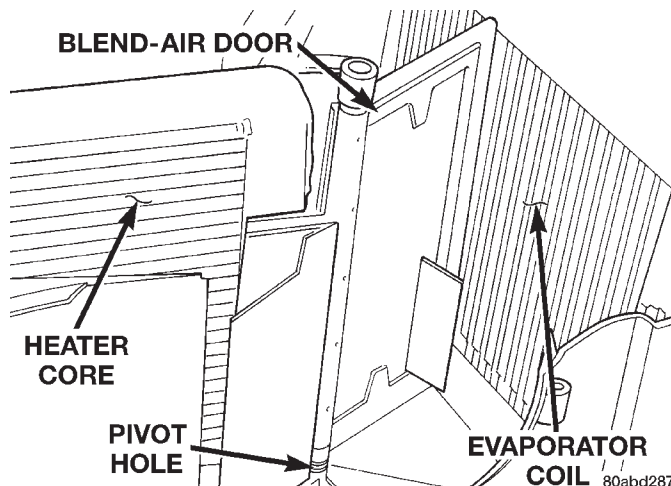

Fig. 50 Blend-Air Door
(2) Lift the blend-air door pivot shaft out of the pivot hole in the bottom of the lower half of the heater-A/C housing (Fig. 50).
(3) Reverse the removal procedures to install.